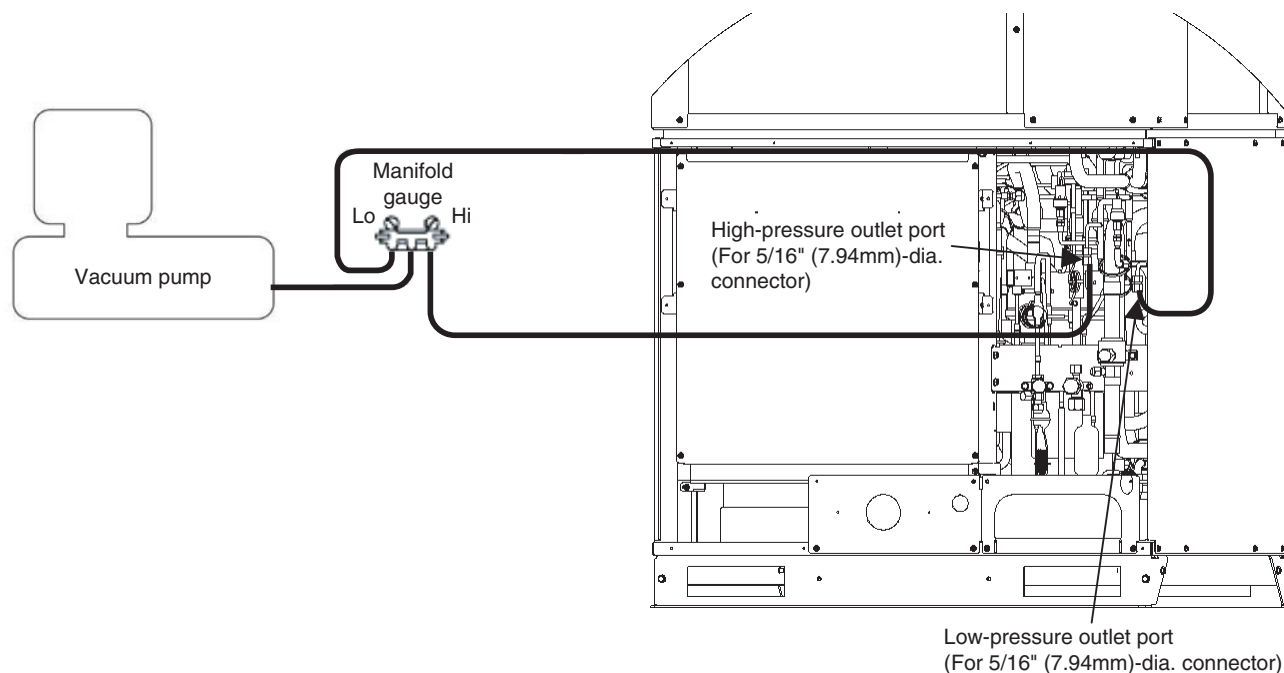

Fig. 13
- (1) Check that each service valve of the gas tubes, liquid tube, and balance tube in the outdoor unit are fully closed.
- (2) Connect the manifold gauge valves to the high-pressure and low-pressure sensor outlets of the outdoor unit. (Fig. 13)
- (3) Connect the manifold gauge valves to the vacuum pump.
- * If the AP pins (CN102) on the outdoor control PCB have already been short-circuited, step (4) is not necessary.
- (4) Turn off power to the repaired outdoor unit and short-circuit the AP (Air Purge) pins on the outdoor control PCB.